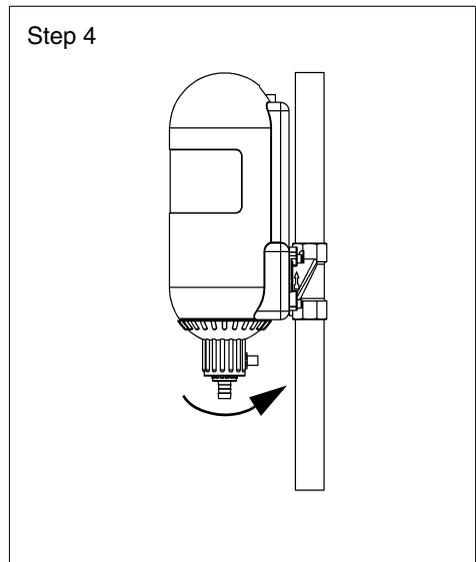

Fig. 7: Upon having finished the backwash performance, close the flush-faucet and turn it back. Other than that the device is inoperable.
During the backwashing the heating water flows from the top downwards (reversed flow) through the round filter brush (2), this flushes the dirt particles downwards through the open ball valve. After approx. 2 to 3 liters of backwashing water have been flushed through, the ball valve must be closed again tightly. Turn the handwheel (5) back to the right up to the limit stop. The filter is now in the operating position. The ball valve handle (6) is now back behind the filter (see fig. 7).